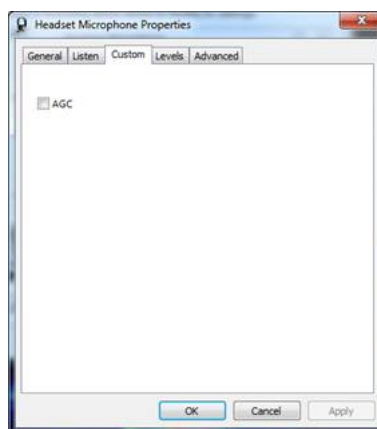

Figure 8—Headset Microphone Custom Settings.
Step 10: select the Custom tab and uncheck AGC as shown in Figure 8. This is desirable because levels and AGC will be accounted for via adjustment in PowerSDR and turning these off prevents Windows from doubling up on any such adjustments. *However, if your particular device has trouble generating sufficient audio levels, you can turn this back on if necessary.*